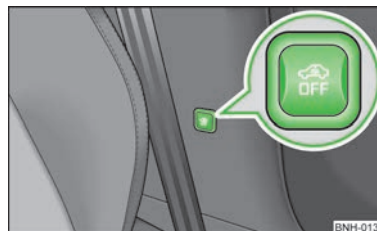

Fig. 13
- Press the button  » Fig. 13 on the centre column on the driver side, the symbol  that lights up in the button changes from red to orange.